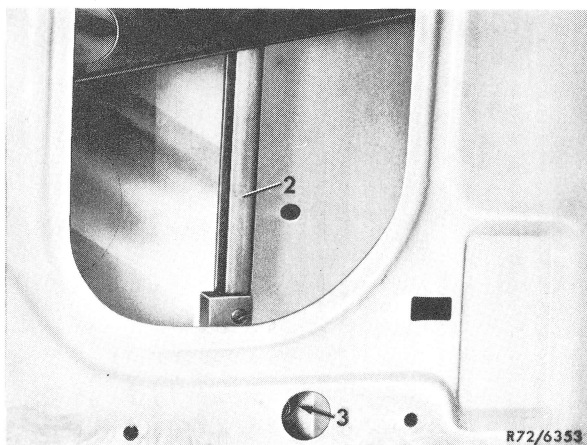

Fig. 2
- 5 Loosen window guide front (2) on lower fastening (3) and upper fastening (4) (Fig. 2 and 3).